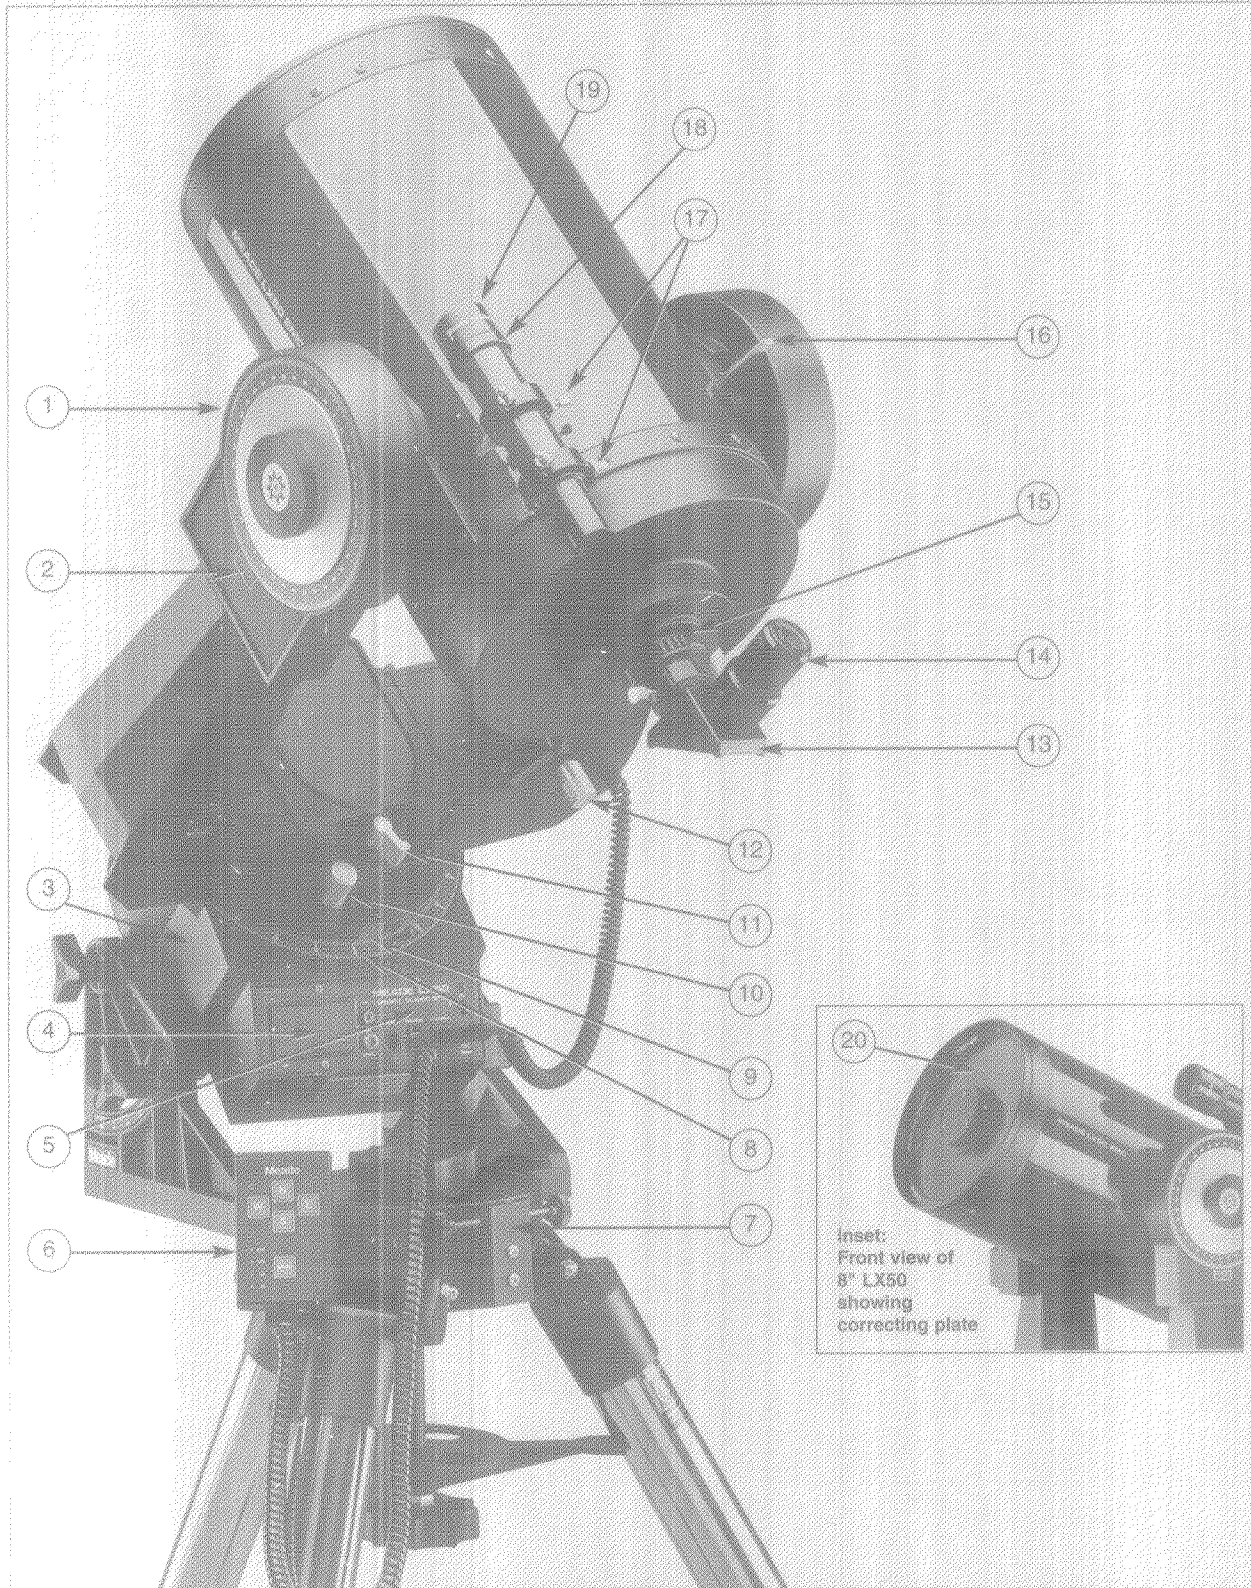

Fig. 1: The Meade 8" LX50 Schmidt-Cassegrain Telescope.
**Captions for Fig. 1**
While unpacking the telescope, take a moment to note the following parts and assembly materials included with the telescope. Refer to Figs. 1, 2, and 3 to become familiar with the various parts.